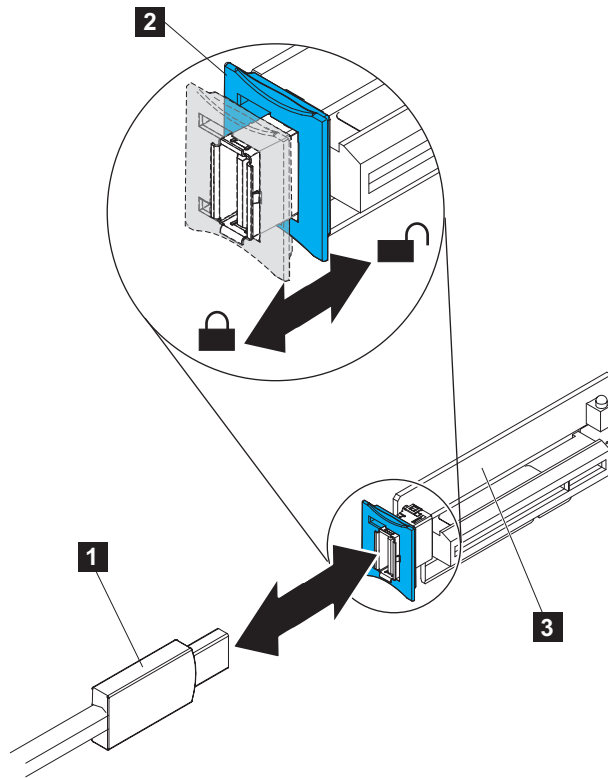

Figure 81. USB service-controller cable connector on the USB riser card
- c. Grasp the blue lockbar (**2** in Figure 81 on page 97) and slide it toward the USB riser-card assembly (**3**) to the unlock position and remove the USB cable (**1**) from the connector.
b. Align the USB service-controller cable (**1** in Figure 81) with the connector on the USB riser-card assembly (**3**) and push it into the connector until it is firmly seated.